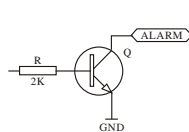

Figure 2
2.2 Alarm output interface (See Figure 2)